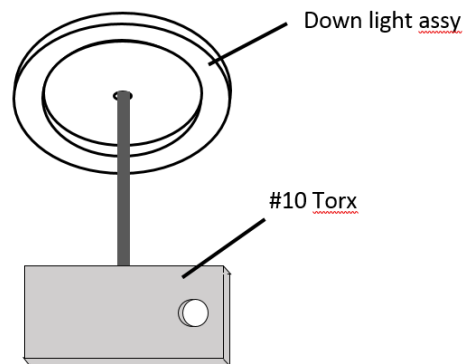

Figure 10 - LED Removal
- Insert the #10 torx into the center hole of the lens as shown in Figure 10 - LED Removal to unscrew lens assembly.